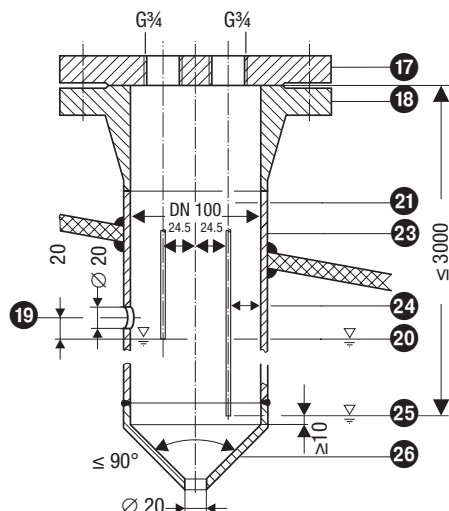

Fig. 17 Protection tube (provided on site) if electrode is used as internal water level-limiter combined with water level control or low water level alarm
- One level electrode NRG 1...-50 can be installed together with one GESTRA level electrode, one level switch or transmitter for water level control or low level alarm in one single protection tube or level pot (inside diameter 100 mm). **Fig. 17.** If the electrode NRG 1...-50 is installed inside the vessel, it must be at least 40 mm away from the upper vent hole.